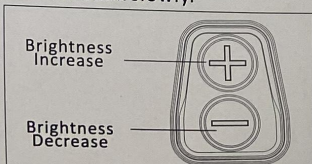

Fig 7
1. Switch on: Press and release either brightness button ("+" or "-") to turn on the sight, See Fig 7.